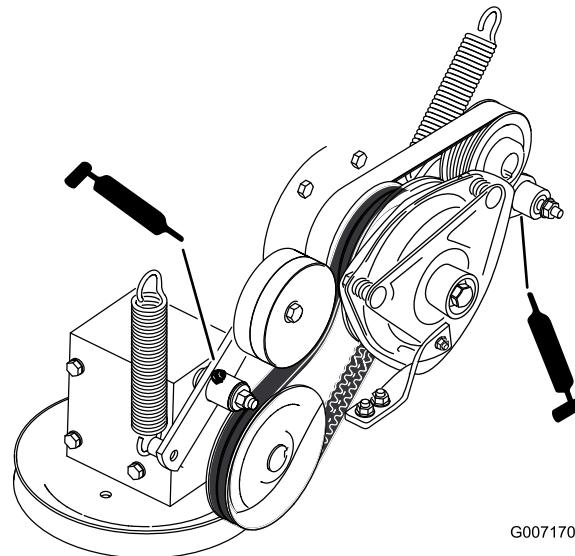

Figure 33
7. Grease the PTO drive belt idler arm (Figure 33).
8. Grease the pump belt idler arm (Figure 33).